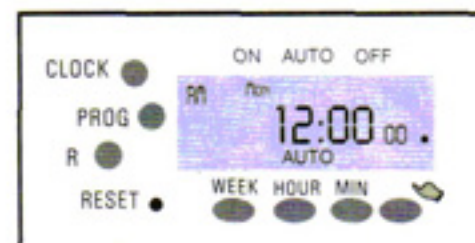

Figure 16
- 5.1 To reset clock time and/or programs use a blunt pin or a ball point pen and press "RESET". Do not use this function unless absolutely necessary. It will clear all the memory inside the timer. (See Figure 16)